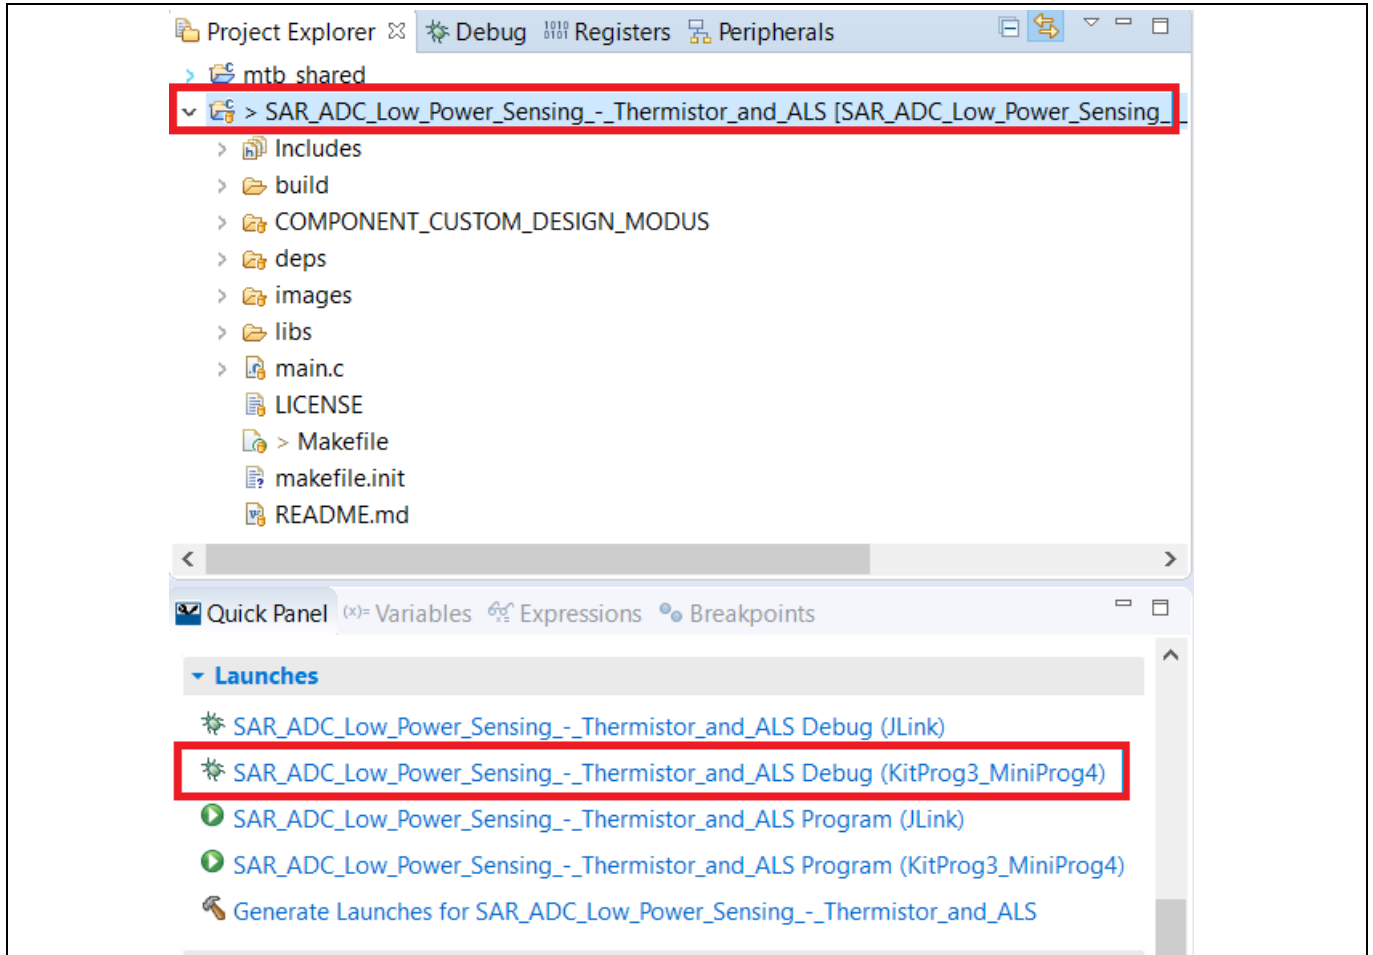

Figure 11 Debug the code example
4. ModusToolbox™ has an integrated debugger. To debug a PSoC™ 6 MCU application, in the Project Explorer, select <App_Name> project. In the Quick Panel, scroll to the **Launches** section and click the <App_Name> Debug (KitProg3_MiniProg4) configuration as shown in **Figure 11**. For a detailed explanation on how to debug using ModusToolbox™, see the **ModusToolbox™ user guide**.